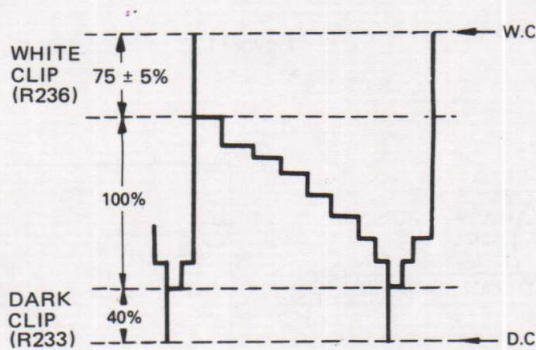

Figure 69
- ① Place the VTR in the REC mode.
- ② Input colour bars (stair waveform) of 1 V peak to peak.
- ③ While observing TP204 on the oscilloscope, fine adjust WHITE CLIP (R236) and DARK CLIP (R233) so that the overshoot and undershoot are as shown in Fig. 69.